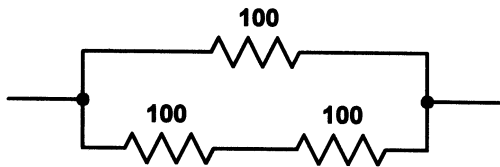

Figure 2.43
- 2.5 Three 100 Ω resistors are connected as shown in Fig. 2.43. Determine the effective resistance of the circuit.